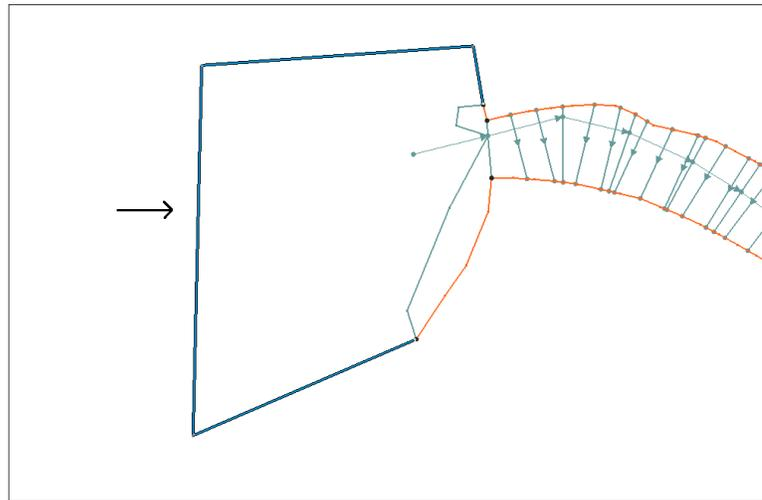

Figure 12 Channel boundary arc to select
21. Using the **Select Feature Arc**  tool, double-click on the most upstream arc (Figure 12) to bring up a *Boundary Conditions* dialog.
22. Select “1D Flow/2D Water Level Connection (HX)” from the *Type* drop-down.